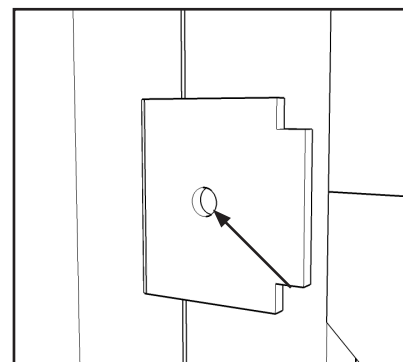

Fig. 2. Predrill Holes and Fasten with S5- 1" Pan Head Screw
2. With a 1/8" drill bit, predrill holes as shown in figure 2.